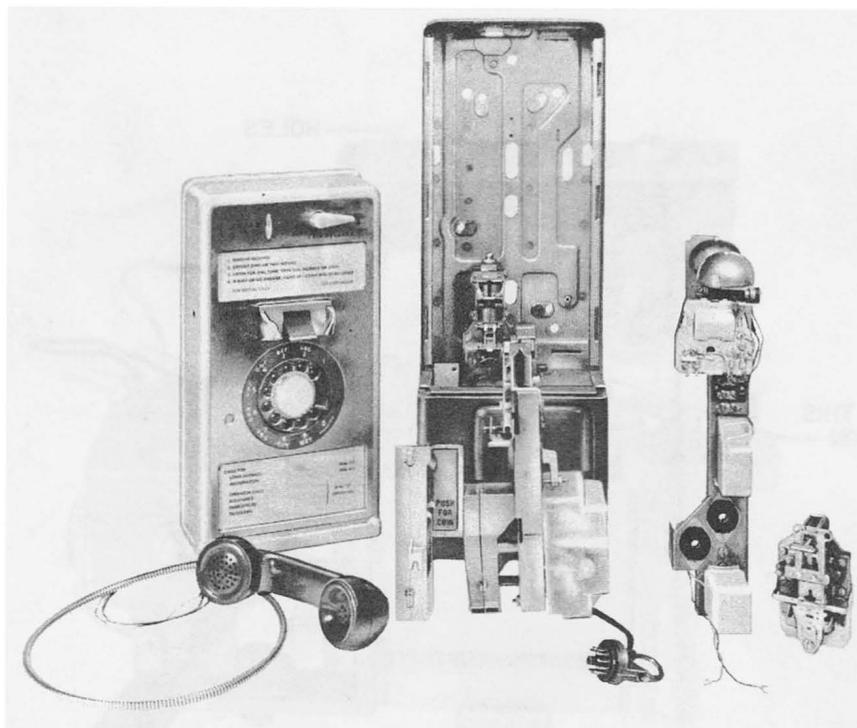

Fig. 1 — Component Parts,
1.01 The 1A1 coin telephone set is designed for limited field maintenance work. All component parts are plug-in units which can be quickly and easily replaced. (See Fig. 1.)